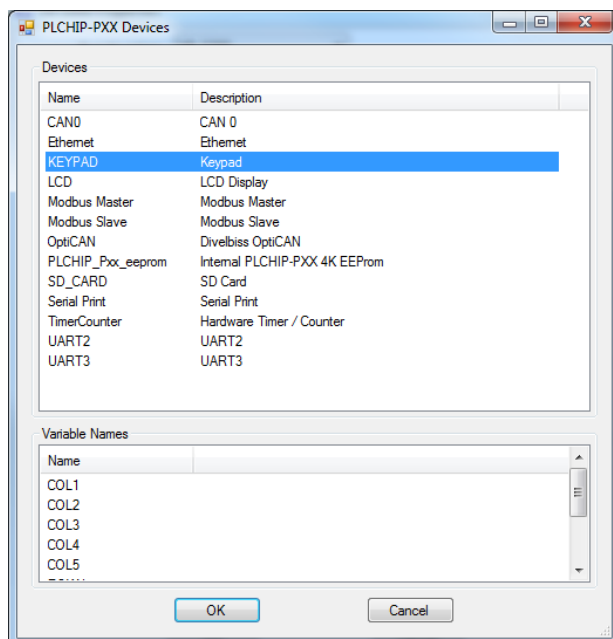

Figure 2-37 - PLCHIP-PXX Devices - KEYPAD
4. Click the **KEYPAD** device (highlight). Refer to Figure 2-37. Click **OK** to close the PLCHIP-PXX Devices Window.